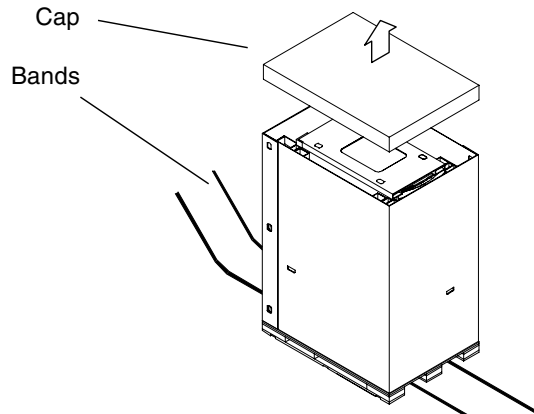

FIGURE 2-1 Unpacking the Sun Fire 6800 System—Step 1
1. Remove the bands and cap from the shipping carton (FIGURE 2-1).